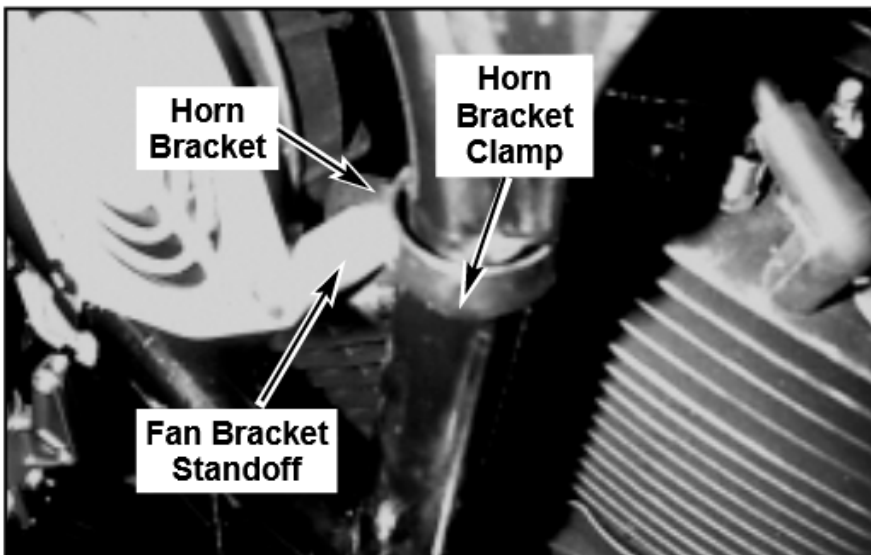

Figure 4. Install Fan Bracket Standoff
- See Figure 4. Obtain the fan bracket standoff (P/N R0051.K) and install between the fan bracket and horn bracket (clamped to frame) as shown. Using 5/16x1-1/4 inch button head screw (P/N AA0514.3CBL), secure fan bracket to horn bracket. Tighten screw to 10-13 ft-lbs (13.6-17.6 Nm).